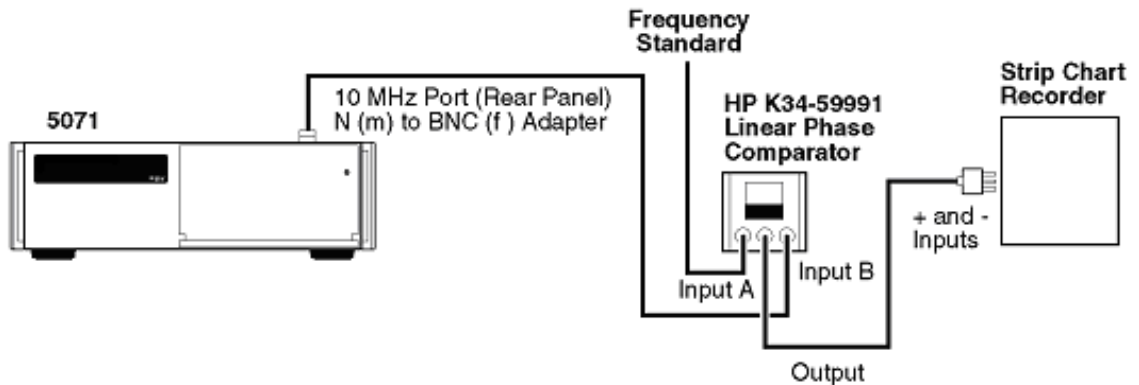

Figure A-7. Frequency Accuracy Test Setup
- 2** Connect the HP/Agilent K34-59991A Phase Comparator OUTPUT terminals to the strip chart recorder as shown in Figure A-7. Set the recorder for 1V full scale and 1 inch/hour, and turn on the recorder.
- 4** Connect the 10 MHz reference to INPUT A and the 5071A (unit under test) 10 MHz to INPUT B as shown in Figure A-7.